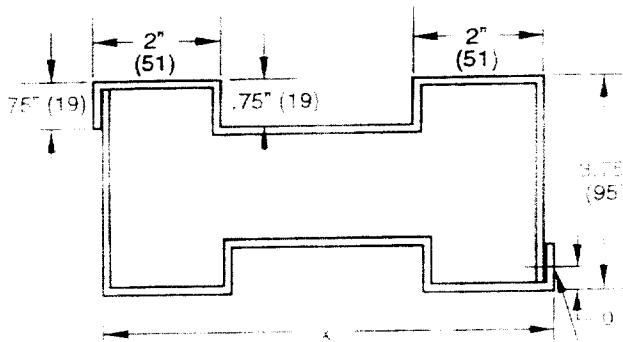

Figure 1
Fabricate mullions of 16 gauge (3) galvanized steel (Construction Details fig. 1). Two mullion pieces are joined with 3/16" (5) diameter steel pop rivets or 3/4" (19) long weld located 6" (152) maximum from each end and 1/2" (13) maximum. The mullions should permit clearance between the mullion and top cap. Required clearance for 8' (2438) foot (305) of wall opening height. Maximum permitted clearance is 1-1/4" (32). (eg., for 8' (2440) high opening the permitted clearance is $1/8" \text{ per foot} \times 8 = 1$ to 1-1/4" (3.2 per 305 x 8 = 25 to 32)).